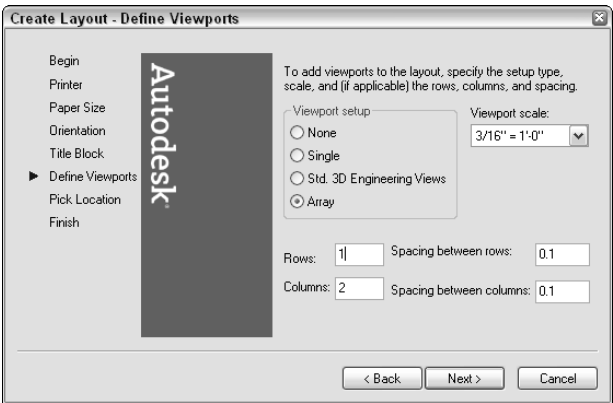

Figure 17-6: The Define Viewports screen of the Layout Wizard.
7. On the `Define Viewports` screen, shown in Figure 17-6, you choose from four viewport configuration options: